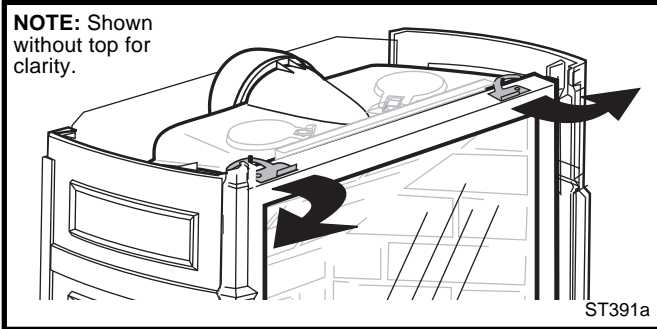

Fig. 66 Release the latches to release the glass frame.
2. Swing open the swiveling latches at the top left and right corners of the glass frame. (Page 37, Fig. 66)
Replace glass only with CFM Specialty Home Products approved parts. Refer to Page 39 for Replacement Parts. Refer to Figure 66 and previous instructions for removal of the damaged glass frame.